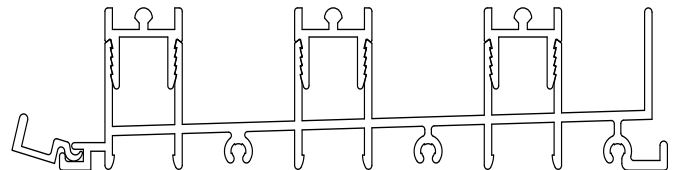

Figure 30
- 10) Attach the standard screen rail to the main frame by inserting the tail piece into the main frame sill accessory groove and rotate downward. (See Figure 30)